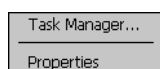

Figure 2-9. Task Manager, Properties Selection Menu
1. Select **FUNC - CTRL**, (to activate the ALT state) and tap on the taskbar to display the Task Manager, Properties window, see Figure 2-9 on page 2-17.